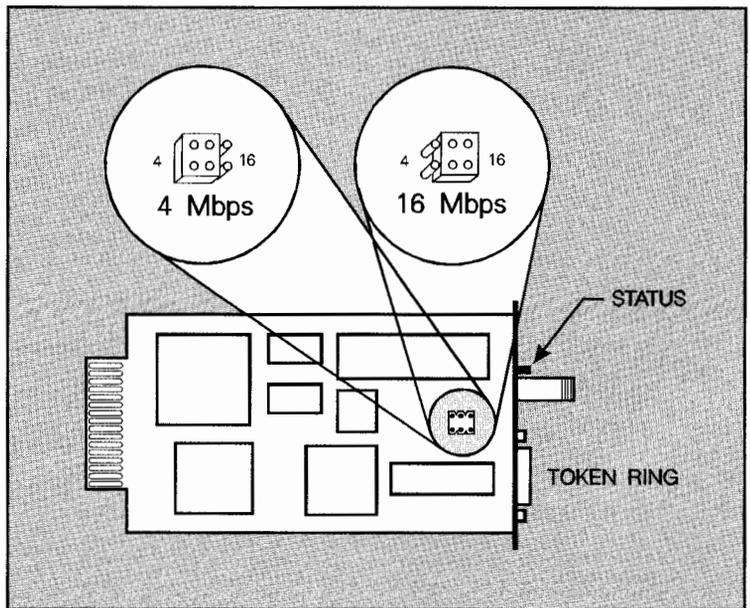

Figure 3-18. Configuring the Token Ring Adapter Card
3. Configure your Token Ring adapter card for either 4 Mbps or 16 Mbps data rate by moving the jumper block to the appropriate position. See Figure 3-18. This should be the same setting as the other adapter cards on your network. *The factory default setting is 4 Mbps.*